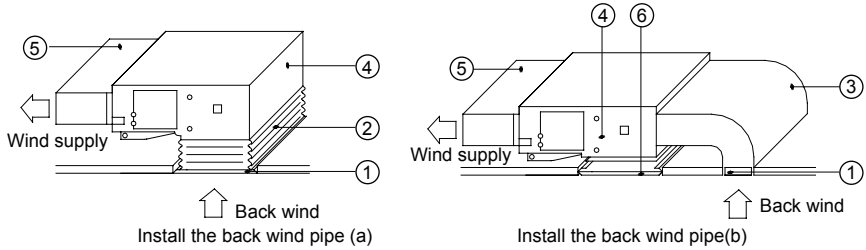

Fig. 12
- (2). If the downward return air is desired, just change the place of the rectangular flange and the return air cover plate.
- (3). Connect one end of the return air duct to the return air outlet of the unit by rivets and the other to the return air louver. For the sake of the convenience to freely adjust the height, a cutting of canvas duct will be helpful, which can be reinforced and folded by 8 # iron wire.
- (4). More noise is likely to be produced in the downward return air mode than the backward return air mode, so it is suggestive to install a muffler and a plenum box to minimize the noise.
- (5). The installation method can be chosen with considering the conditions of the building and maintenance etc., as shown in Fig.12.